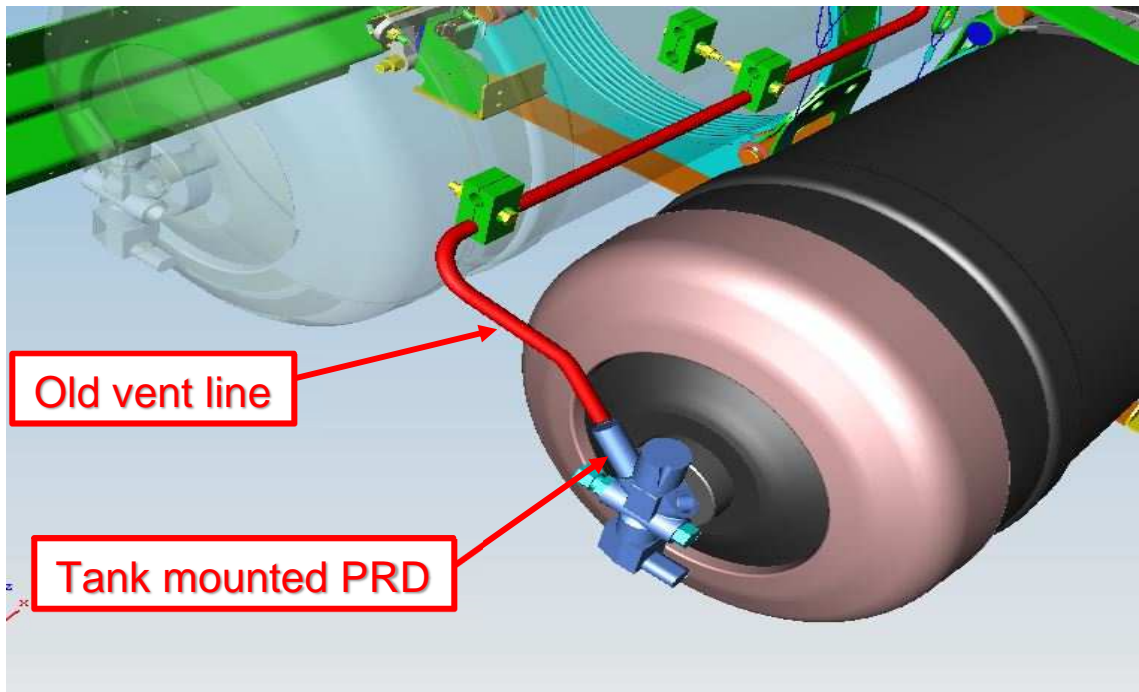

**Figure 3: Remote PRD**
3. Using a backing wrench to hold the adaptor body hex, disconnect the vent line from the remote PRD. The adaptor on the remote PRD will remain in place. Refer to Fig. 3.